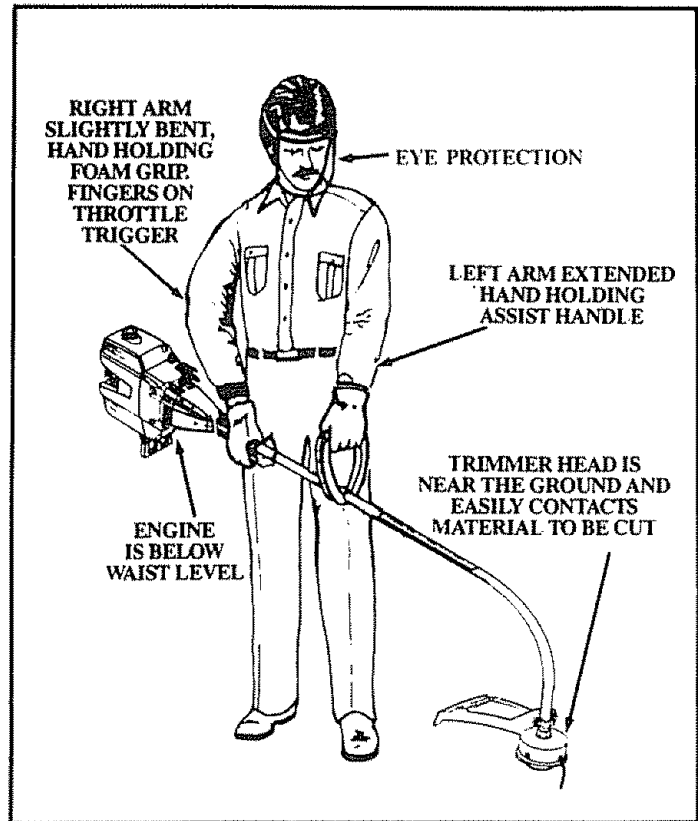

Figure 11
## 6. OPERATING POSITION – Figure 11
a. Before starting the Engine, stand as shown in Figure 11 and check for the following: